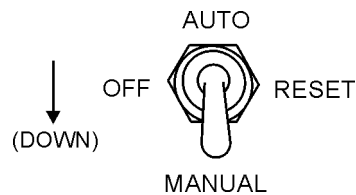

Figure 27. Off/Manual/Auto Switch (Manual)
6. Place the Off/Manual/Auto switch (Figure 27) in the **MANUAL** position (down). The engine will begin to crank.